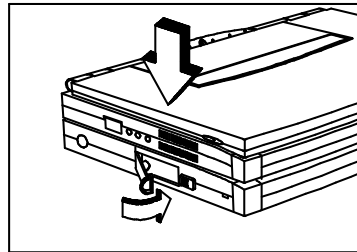

Figure 2-3 Docking the Notebook into the MPB
2. Slide the lever release latch to the front of the MPB to release the docking lever (refer to Figure 2-3).
4. Slide the notebook into the MPB, right side first, as shown in Figure 2-3. Ensure that the docking guides on both the notebook and the MPB are securely hooked.